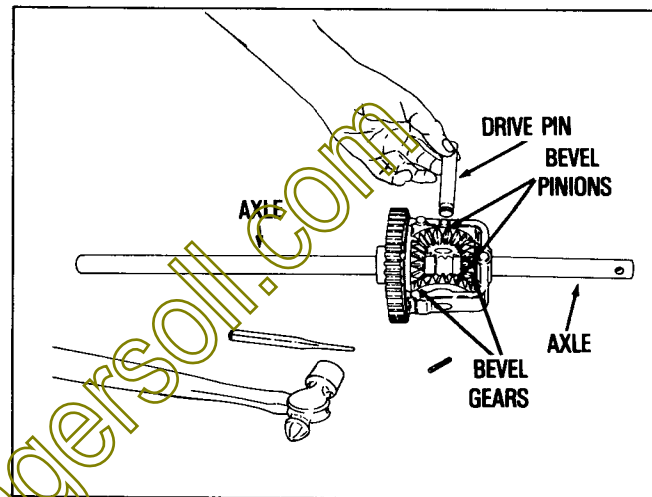

FIGURE 26
4. After aligning, insert thrust washers behind each pinion. Insert drive pin and secure with roll pin. (See Figure 26).